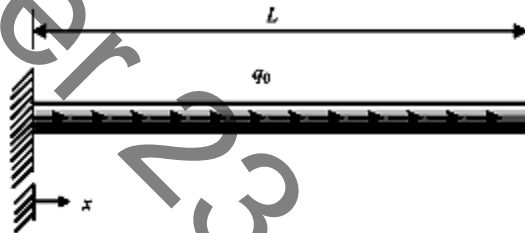

Figure 1
b) Consider a uniform rod subjected to a uniform axial load as illustrated in figure 1. It can be readily shown that the deformation of the bar is governed by the differential equation